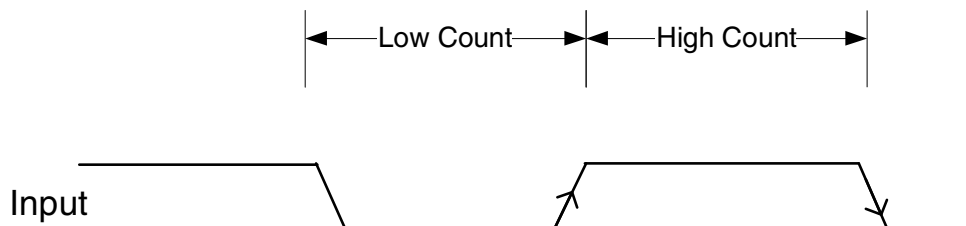

Figure 22-4. Pulse-Width Measurement Mode
- On the falling edge of the source clock, the free-running count is copied to the **HIGH_FIXED_COUNT** bit field (as shown in Figure 22-4).